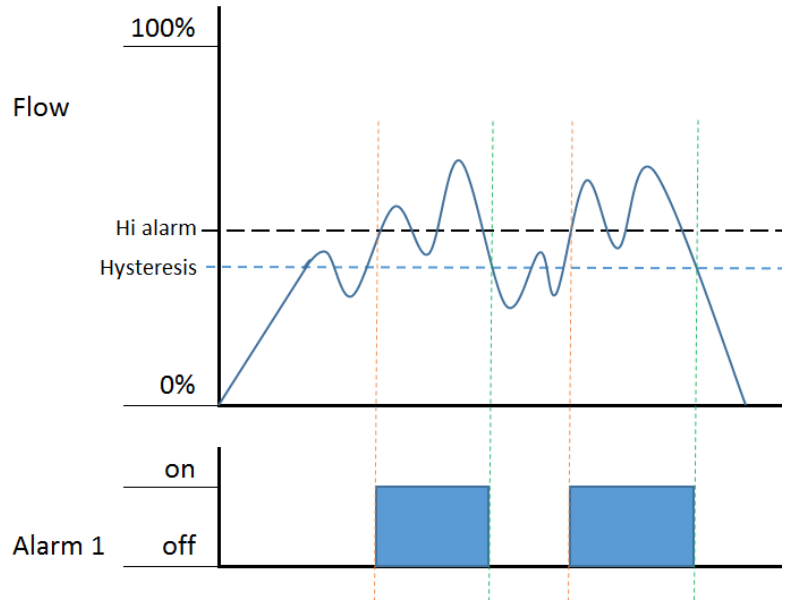

Figure 9: Explanation hysteresis
**Hysteresis:** The hysteresis is the difference between the value where the alarm turns ON from turning OFF and the value where it turns OFF from turning ON. This difference is defined in % of full scale. In figure 9 an example of a 50% threshold value high alarm with a 10% hysteresis. The blue line in the top graph reflects the gas flow, the vertical dotted lines the switching points. The blue area's in the graph below is where the alarm is activated. The reset is set to automatic.